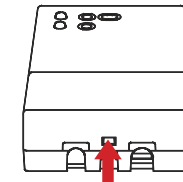

Fig. 1
- 7 Place the cable lid on the base and rotate it towards the base; push the cable lid until the locking plastic flap springs into the hole on the lower side of the cable lid (Fig. 1).